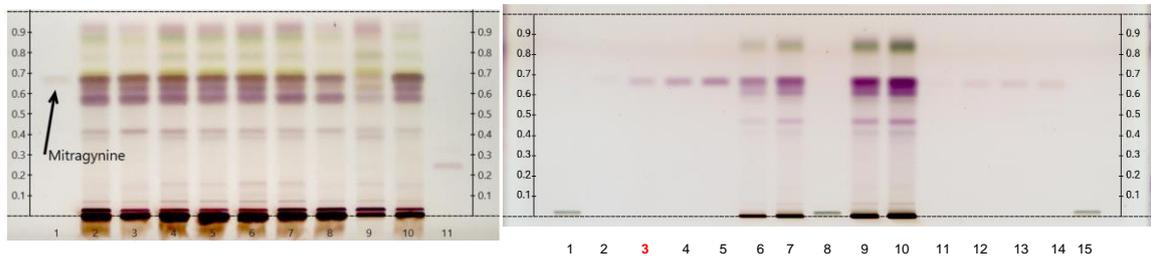

Figure 3
3. The extract was analyzed with the method provides in [2] and modified derivatization (anisaldehyde reagent instead of sulfuric acid reagent). Results are comparable (Figure 3, Test 2)